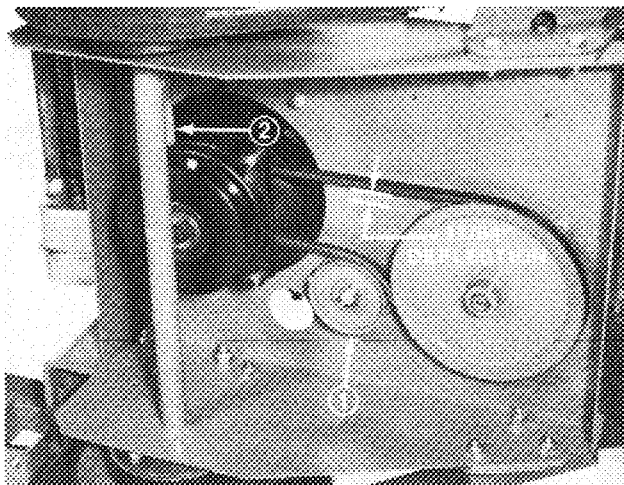

Figure 21
1. Loosen capscrew and flange nut securing idler pulley to frame (Fig. 21). Slide pulley outward relieving belt tension.
2. Remove left front engine mounting bolt securing clutch retainer to frame (Fig. 21). Unhook retainer from clutch and remove retainer.
3. Disconnect in-line wire connector and remove belt from drive pulley and clutch (Fig. 21).
6. Position and secure idler pulley to frame so belt deflection is no more than  $11/64$ " when 5-1/2 lb of force is applied to midspan of long leg of belt (Fig. 21).
1. To adjust clutch, tighten or loosen locknuts on flange studs (Fig. 21).